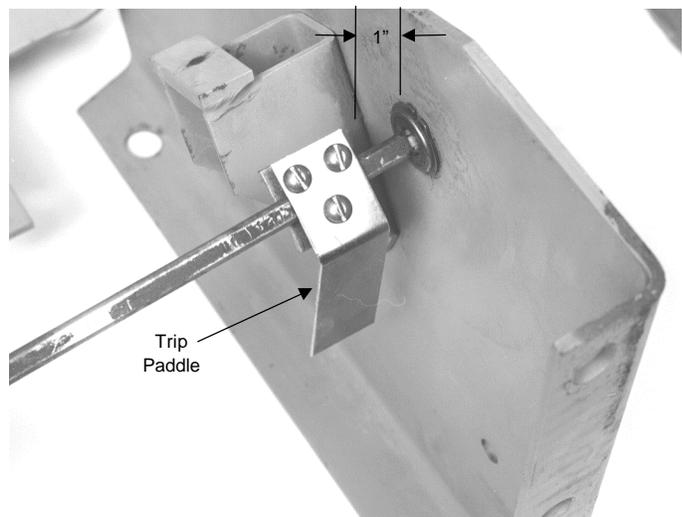

Figure 9. Installing the new trip paddle.
3. Slip the trip paddle over the trip actuator bar approximately one inch from the side frame, as shown in Figure 9. Insert the remaining 10-32 x $\frac{3}{4}$ " screw and tighten the other screws to secure the trip paddle in place.